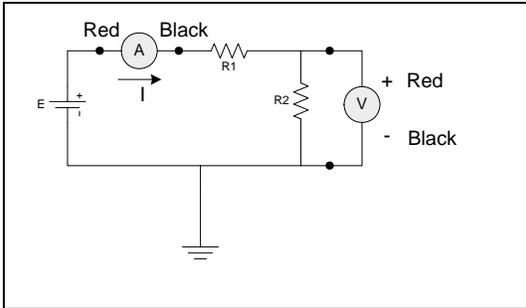

Fig.1.1: DMM Connection
**Current measurement** through a component is made in **series** with that component. An Ammeter has very small internal resistance, which is treated as short circuit (S.C.) during calculations. Figure 1.1 shows the connection of the DMM as a Voltmeter and an Ammeter.